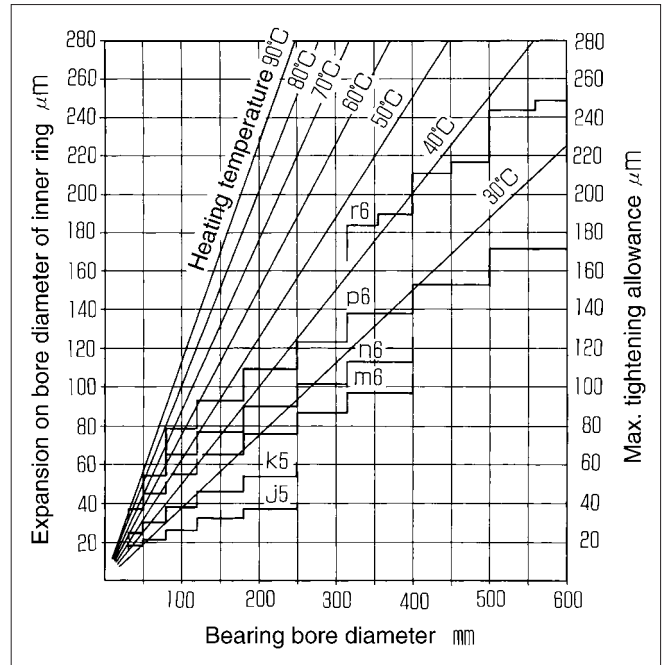

Fig. 9.19
(2) Shrink-fitting
- a. To install a medium or large bearing, a shrink-fitting technique can be conveniently employed. The heating temperature for shrink-fitting can be selected from Fig. 9.19 based on the bearing dimensions and tightening allowance requirements. Remember the temperature of the bearing must not exceed 120°C.